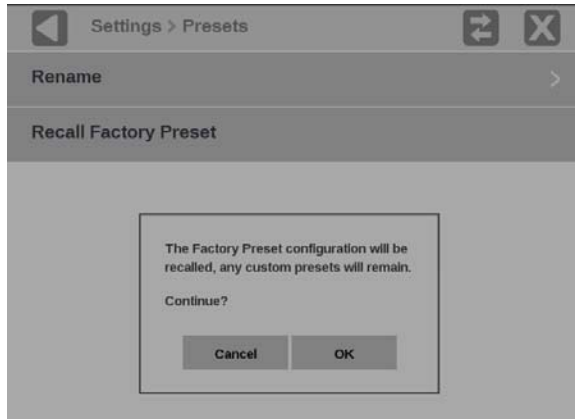

Figure 54: Presets Rename submenu
3. Select **Recall Factory Preset**. A confirmation box opens. (See Figure 54.)